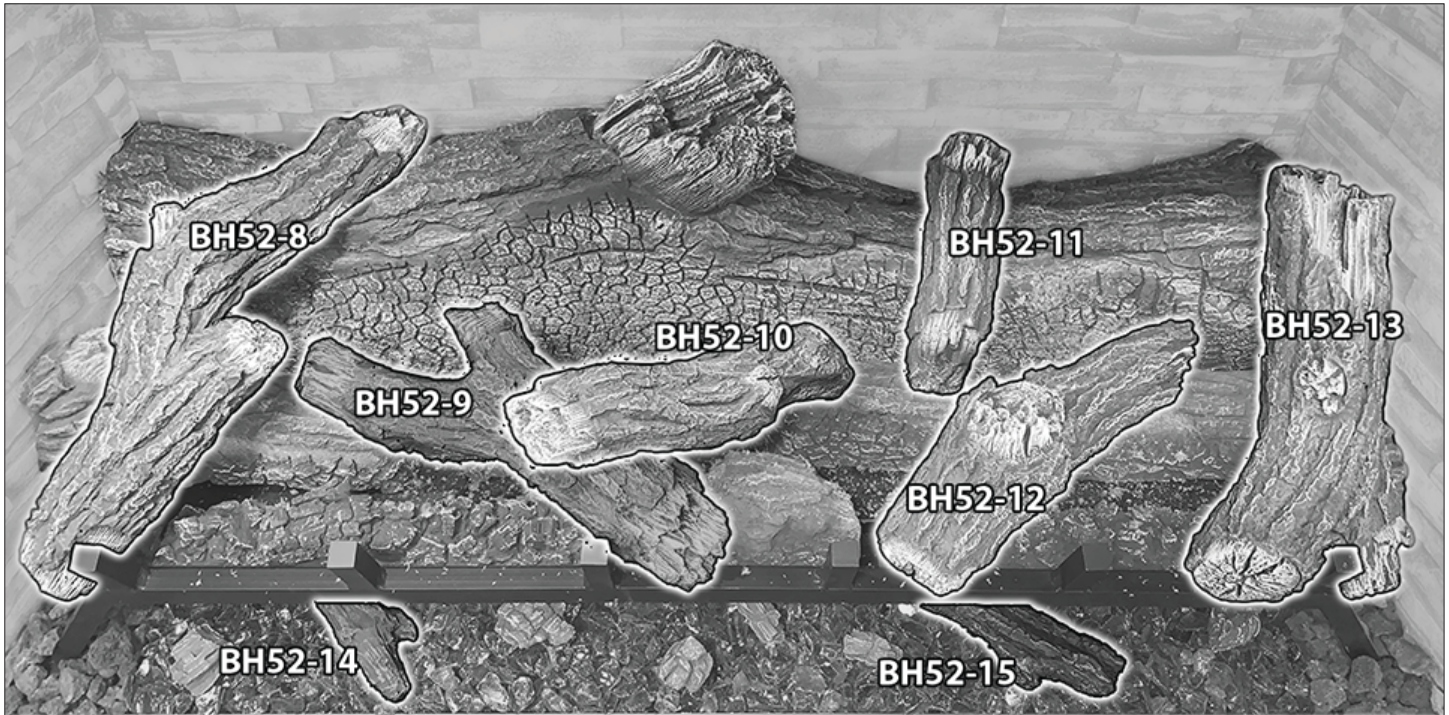

Figure 8.10, Completed Log Set
6. Align the hole in the bottom of log BH52-8 with the stud on the left hand side of log BH52-1 and set into position, as shown in Figure 8.10 on the following page.
7. Align log BH52-9 with the notches in log BH52-2 and BH52-3 (Figure 8.8). Place as shown in Figure 8.10.
8. Align log BH52-10 with the notches on logs BH52-9 and BH52-6 (Figure 8.9), and place as shown in Figure 8.10.
9. Align log BH52-11 with the notch in the middle right of log BH52-1 (Figure 8.8) , and place as shown in Figure 8.10.
10. Align log BH52-12 with the notch on log BH52-7 (Figure 8.8) , as shown in Figure 8.10.
11. Align log BH52-13 with the notch on log BH52-1 (Figure 8.8), and place on logs BH52-7 and BH52-1, as shown in Figure 8.10.